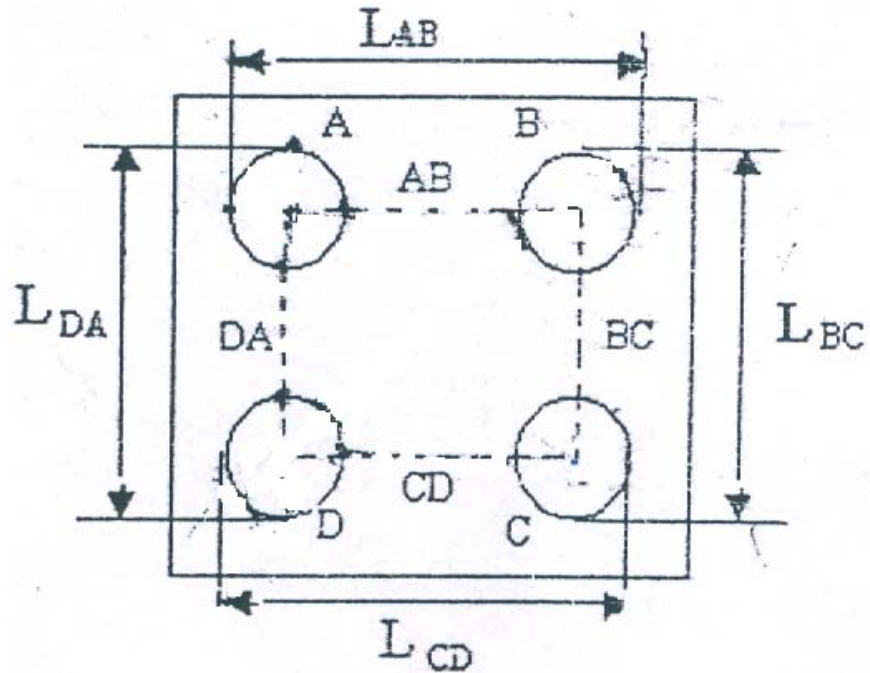

Fig. 4 Jig plate Inspection
- For jig plate inspection (Ref. Fig. 4)